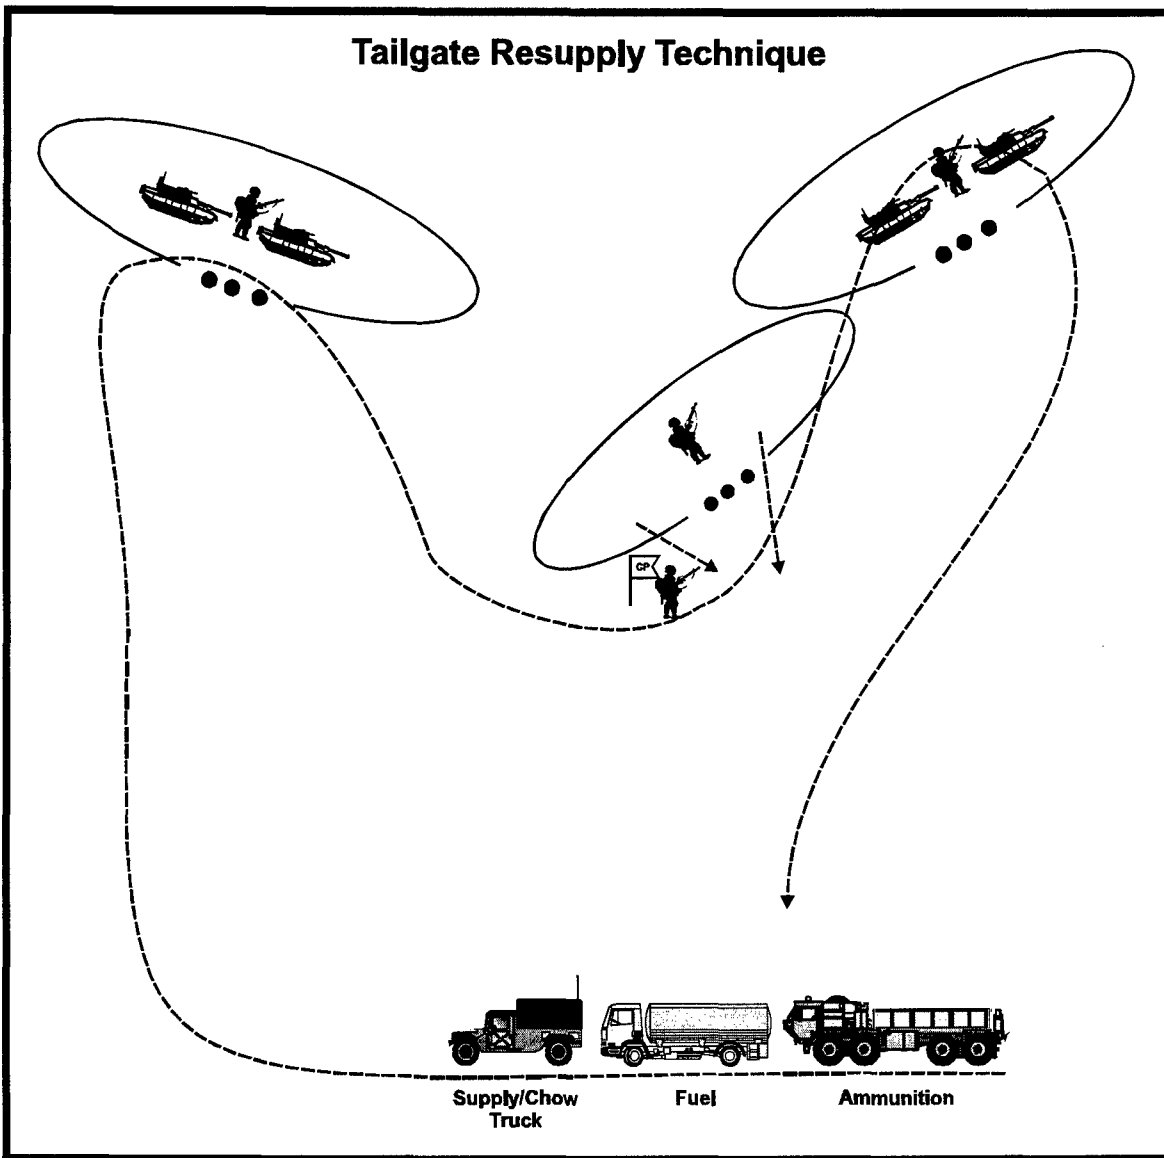

Figure 8-1
□ ***"In-Position,"*** also called the ***"Tail Gate"*** technique -- **supplies come directly to the elements in the company trains.** For this technique, units do not have to move the supplies from one location to another, but this operation may provide the enemy a signature of the company's location (see Figure 8-1).